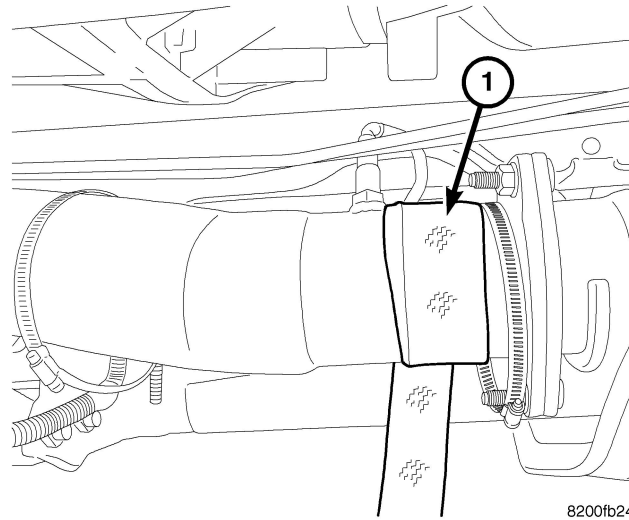

Fig. 2 FIRST WRAP IN FRONT OF FLANGE
5. Starting about 1" (25 mm) in front of the (DOC)-to-(NAC) flange and using full overlap, wrap insulation once around the exhaust pipe (Fig. 2).